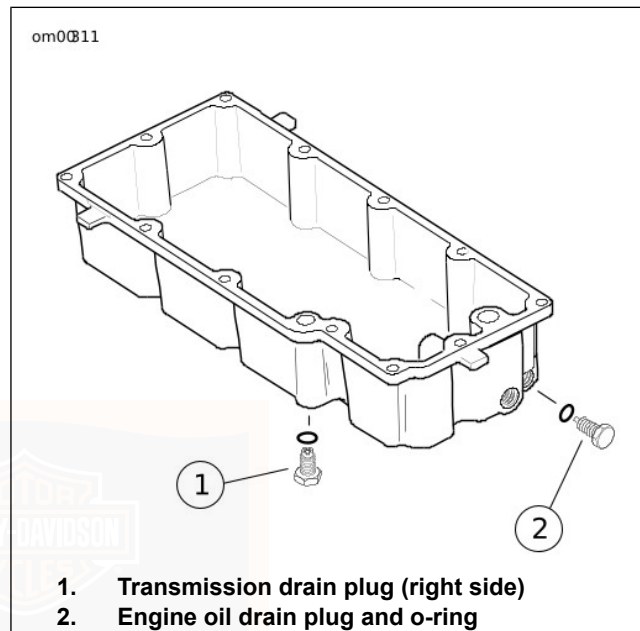

Figure 48. Oil Pan
3. See Figure 48. Locate oil drain plug at front left side of the oil pan. Remove the oil drain plug. Do not remove Allen plug. Allow oil to drain completely.
2. See Figure 48. Remove transmission drain plug from the right side of the oil pan and drain lubricant into a suitable container.